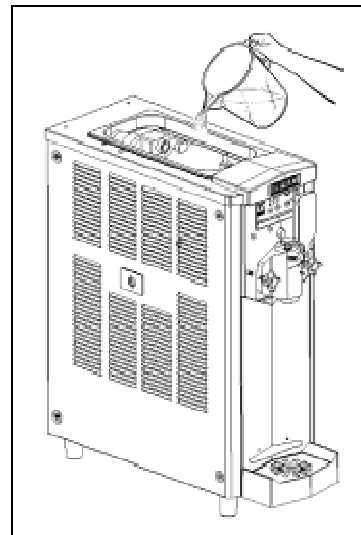

Fig. 28
- Pour the mix into the top tank (fig. 28) and wait for it to flow into the freezing cylinder.